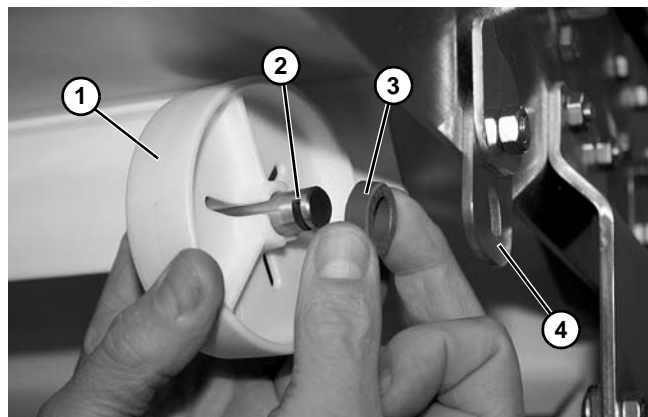

Figure 91
2. Remove puck (Figure 91, item 1), stub shaft (Figure 91, item 2), and spacer (Figure 91, item 3) from return bracket (Figure 91, item 4).